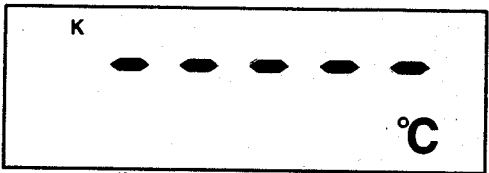
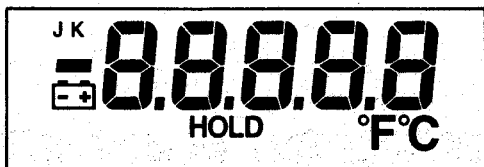

Figure 1. Error Indication
Figure 2. Self-Test Display
The thermometer displays an error indication (Figure 1) if the thermometer itself is subjected to temperatures outside the instrument environment range listed above. However, if the thermometer is initially at an ambient temperature of 20°C (68°F), it will typically provide accurate readings for 5 minutes down to an ambient temperature of -26°C (-15°F).
The error indication (Figure 1, page 3) is displayed if any of the following conditions occur:
1. Press the ON/OFF key. The self-test display appears briefly (see Figure 2). The display then shows the error indication (Figure 1), indicating that no thermocouple is plugged in. If the thermometer should fail the self-test, the self-test display will flash several times.
When the thermometer is turned ON, all display segments appear while the thermometer performs a brief self-test (see Figure 2). If the thermometer should fail the self-test, the display will flash several times, and the thermometer will attempt to resume normal operation. If this occurs, contact the nearest Service Center.
After about 3 seconds, the thermometer displays the first temperature reading. If no thermocouple is plugged into the input, the thermometer displays the error indication (Figure 1).